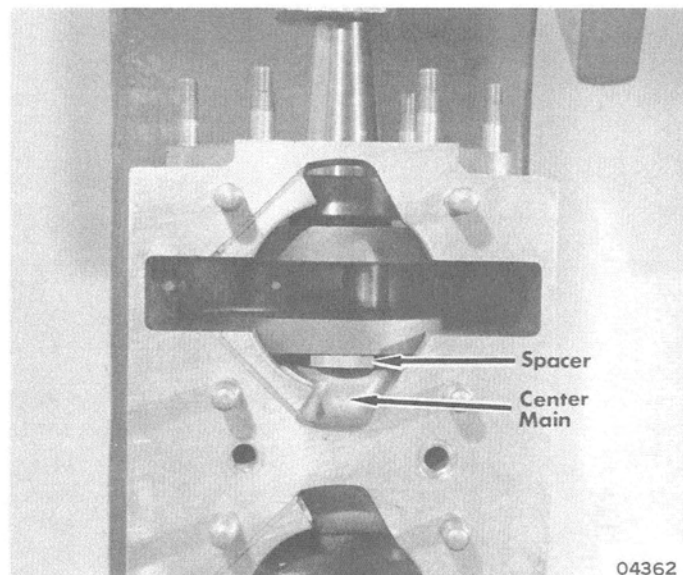

Figure 6. Crankshaft Pressed into Crankcase
5. Press crankshaft assembly into crankcase assembly. (Figure 6)
6. To press center main bearing assembly into position, place a spacer between crankshaft throw and center main. (Figure 6)